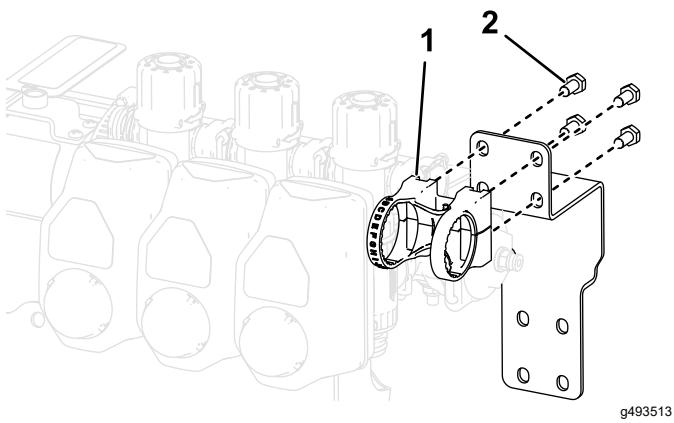

Figure 28
6. Install the control valve assembly onto the top of the control valve bracket using 4 screws (M6) as shown in Figure 28.